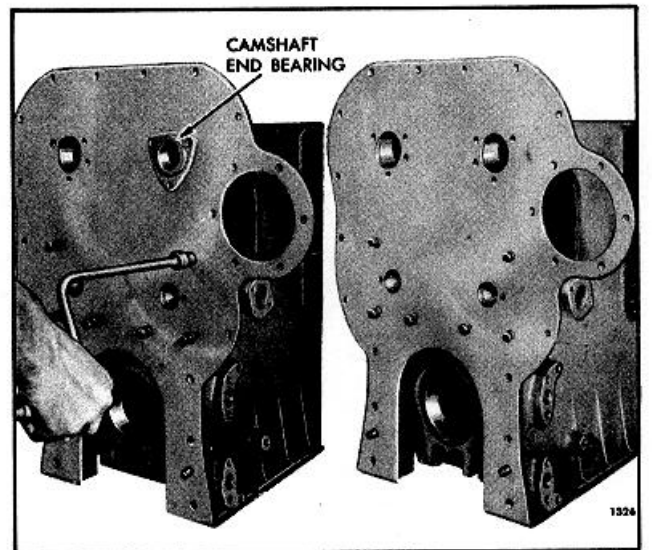

Fig. 3 - Installing Rear End Plate
3. Insert a camshaft end bearing through the SMALL bearing bore in the end plate and into the bore of the block to accurately align the end plate as shown in Fig. 3.